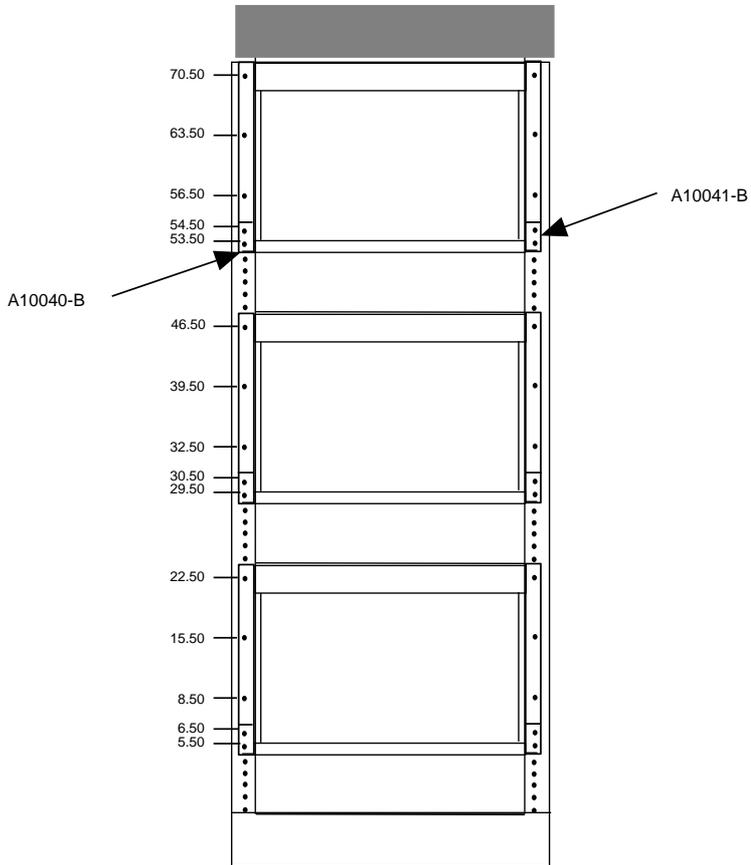

Figure 2-28. Mounting Locations on the Common ESS Frame
1. Locate and attach the two support brackets (A10040-B and A10041-B) to the frame (Figure 2-28) beginning with the lowest frame location.